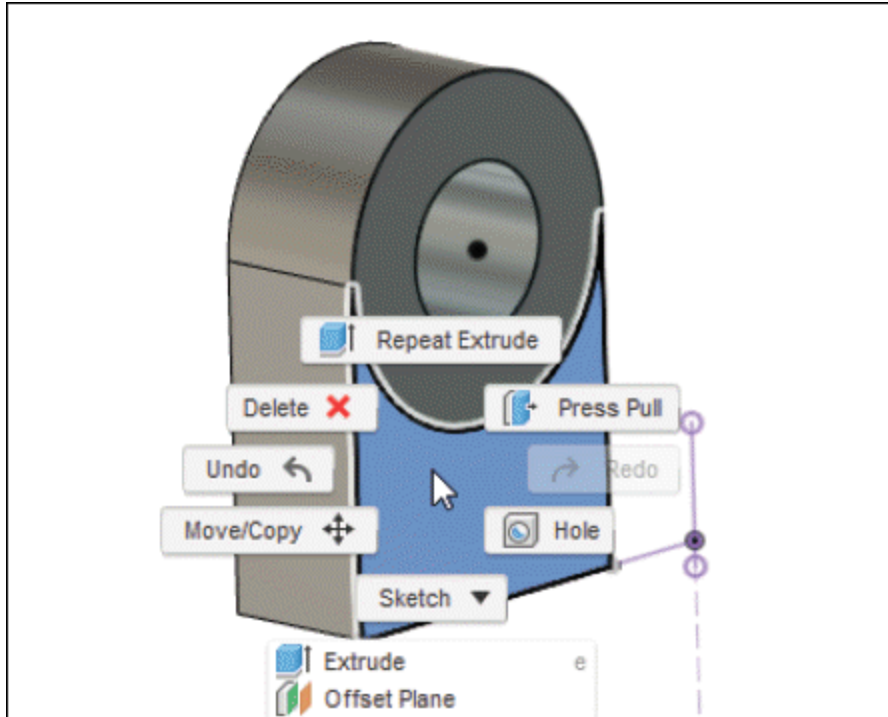

Figure-56. Selecting recently extruded sketch
- Select recently extruded sketch and click **RMB**. A **Marking Menu** will be displayed; refer to Figure-56.